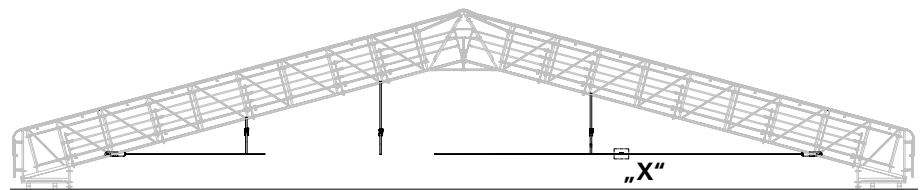

Fig. A8.04a
1. Turn Tie Rod Extension (52) with Hex. Nut (52) on the free end of a Tie Rod as far as possible.
4. Screw-in additional Tie Rod (27.1 / 27.2) into the other end of the Hex. Nut of the Tie Rod Extension as far as possible. (Fig. A8.04a) → Tie Rods are coupled.